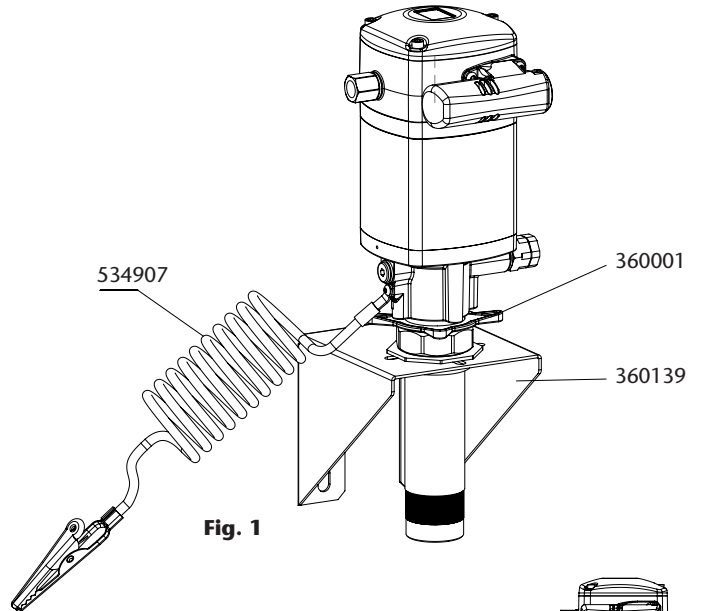

Fig. 1
- a.** Wall mounting with bung adapter. Insert the pump through the wall bracket (360140) and attach it with the bung adapter (360001) (Fig. 1).